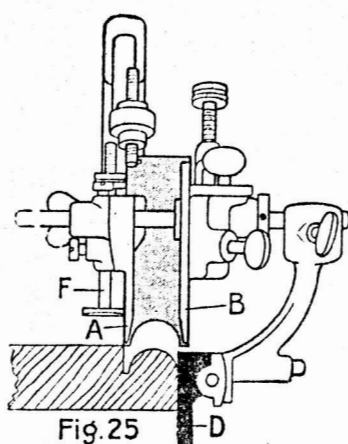

Fig. 25
*Fig. 25* is an illustration of the Plane with a beading cutter inserted, and the Fence properly set for the working of an ordinary bead.
The Fence must be set so that it comes exactly to the inner point of the cutter as shown in illustration *Fig. 25*. This will bring the outside face of the bead to the edge of the board. Set depth gauge *F* on the Main Stock so as to allow the bead to be worked down to the proper depth below the surface of the wood.